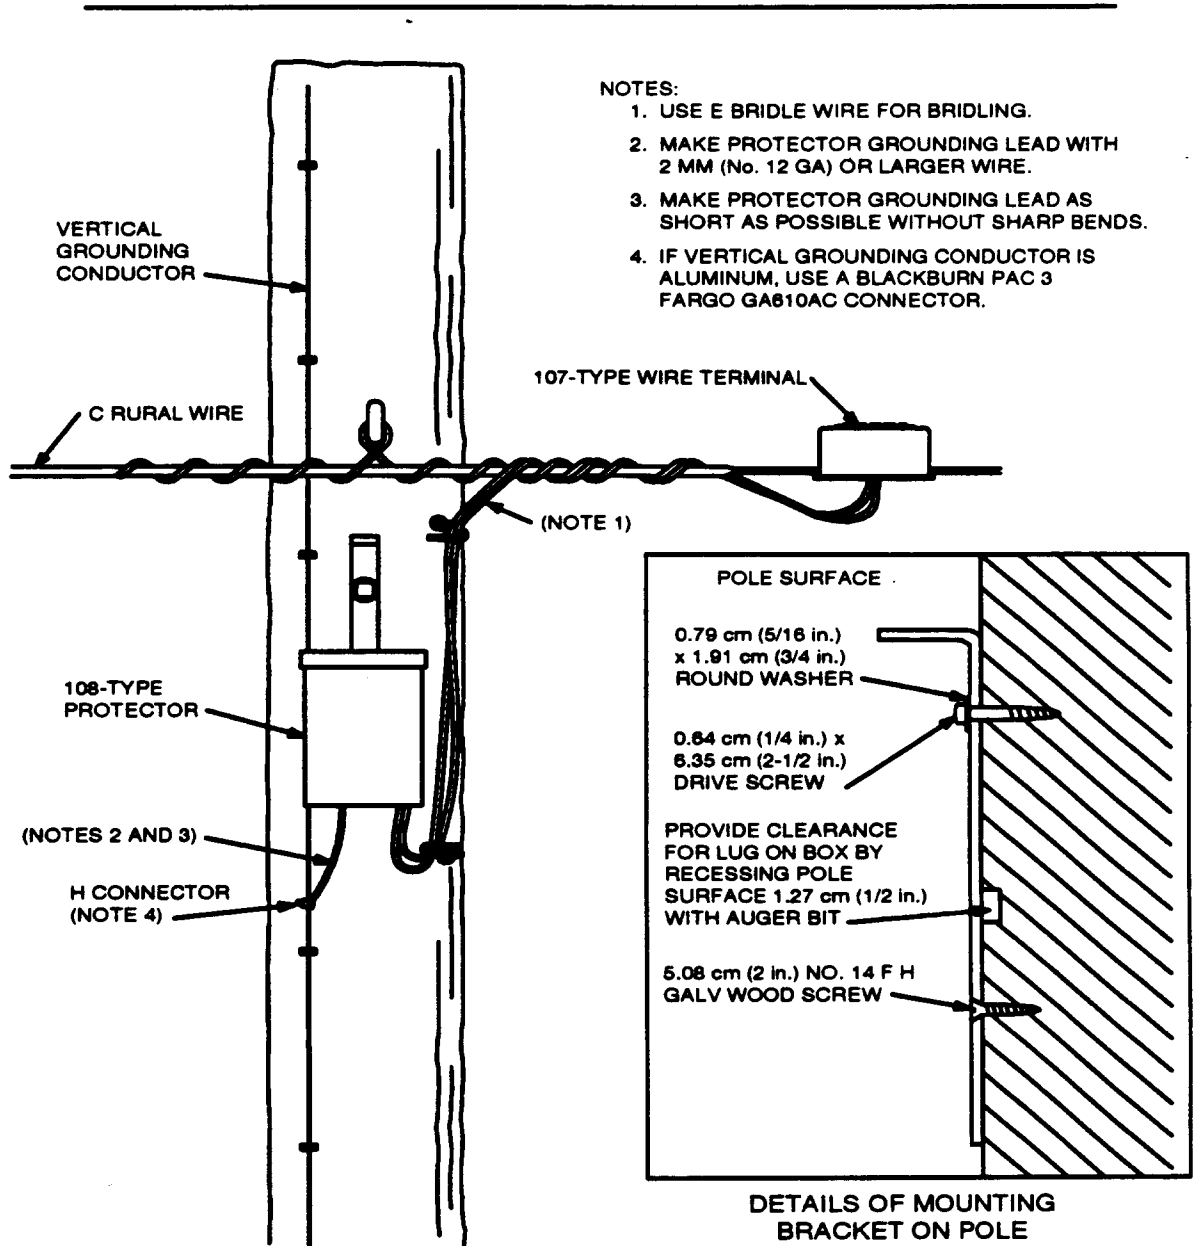

Figure 4. 108-Type Protector Mounted on C Rural Wire
**4.03** The method of mounting a 108-type protector and wiring it to C rural wire is illustrated in Figure 4. AT&T 462-525-150 describes the method of mounting and wiring the 107-type wire terminal. Use E bridle wire for making the connections to wire terminals and grounding conductors. Attachment to the grounding conductor is covered in Part 3.